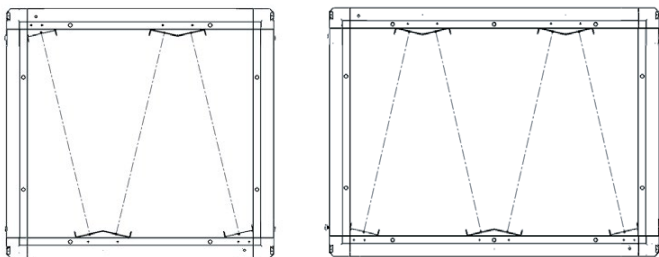

**Fig.5** Proper filter orientation. (3-Ton left – 5-Ton right)
**Note: Ensure proper filter orientation. See Fig. 5**